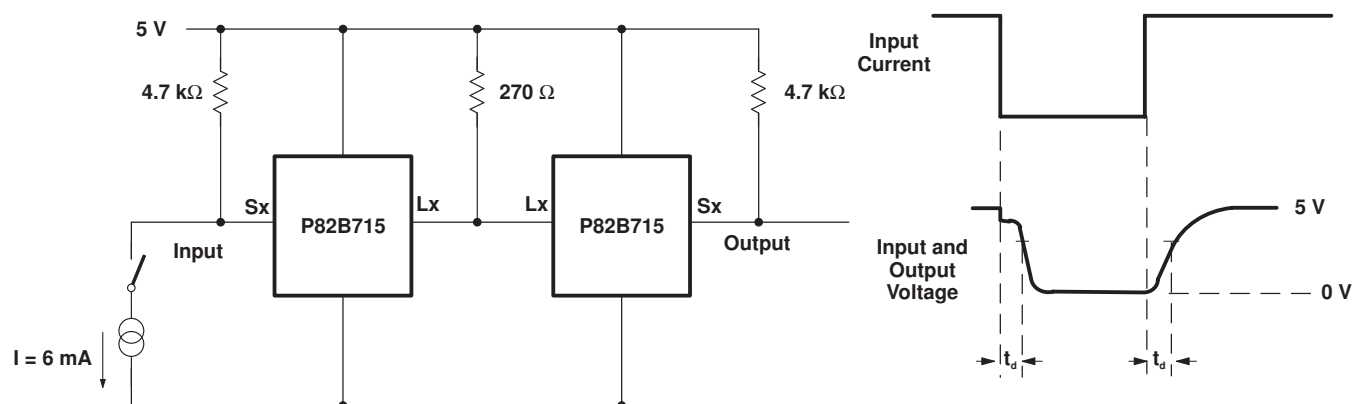

Figure 2. Test Circuit for Delay Times
- A conventional input-output delay is not observed in the Sx/Lx voltage waveforms, because the input and output pins are internally tied with a 30-Ω resistor so they show equal logic voltage levels to within 100 mV. When connected in an I²C system, an Sx/Sy input pin cannot rise/fall until the buffered bus load at the output pin has been driven by the internal amplifier. This test measures the bus propagation delay caused to falling or rising voltages at the Lx/Ly output (as well as the Sx/Sy input) by the amplifier's response time. The figure given is measured with a drive current as shown in Figure 2. Because this is a dynamic bus test in which a corresponding bus driving IC has an output voltage well above 0.4 V, 6 mA is used instead of the static 3 mA.